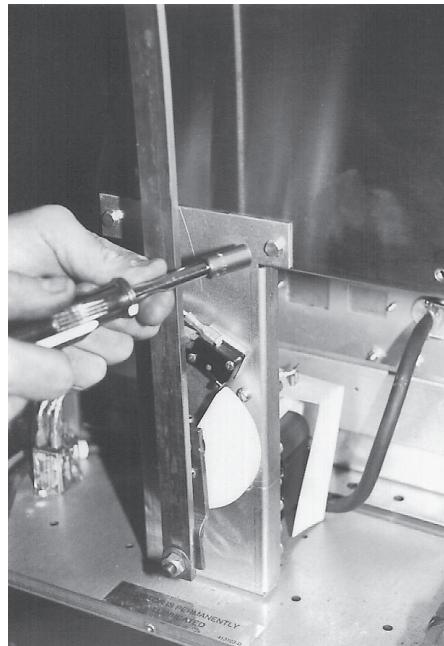

Fig. 67
4. With  $\frac{5}{16}$ " socket, remove (2) nuts holding the cam lift bracket to the cooker back. (Fig. 67)
4. With a  $\frac{5}{16}$ " socket, remove (2) screws holding the motor mount support plate to the cooker. (See Fig. 67)